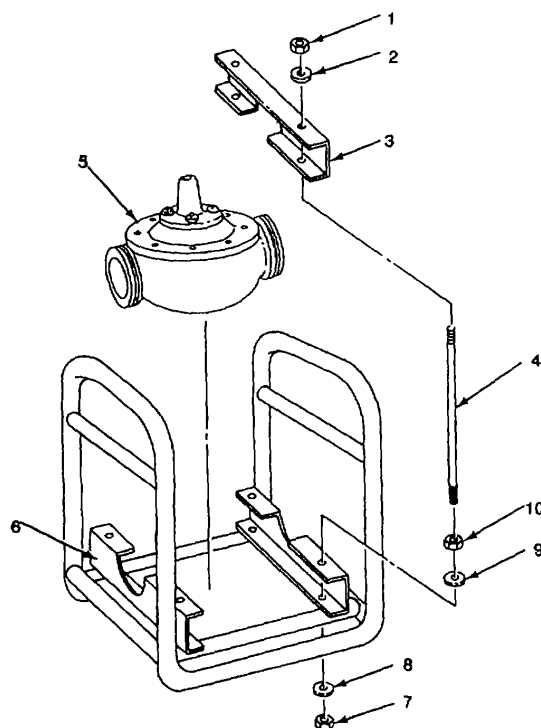

Figure 5-2. Main Valve
- a. REMOVE (Figure 5-2).
(9) Align holes in cover (3) with studs in valve body (4). Carefully install cover (3) over studs.
(10) Install nuts (1) on studs. Do not tighten.
f. **INSTALL (Figure 5-2).**
(1) Install nuts (10) onto studs (4).
(2) Install flat washers (9) onto studs and install studs (4) into skid (6).
(3) Secure studs (4) to skid (6) with flat washers (8) and nuts (7).